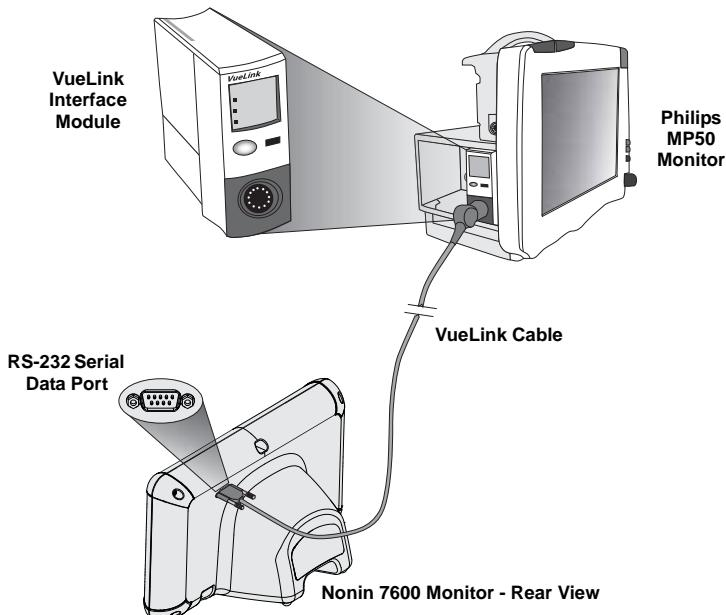

Figure 12: 7600 Connection to Philips Monitor
The Model 7600 4-Channel Regional Oximeter communicates with the Philips Patient Monitoring System using a VueLink Interface Module Auxiliary Plus (Type B) and a connection cable (figure 12). See “Setting up the Connection” for detailed steps.
3. Connect the VueLink connection cable to the VueLink Interface Module (see figure 12).